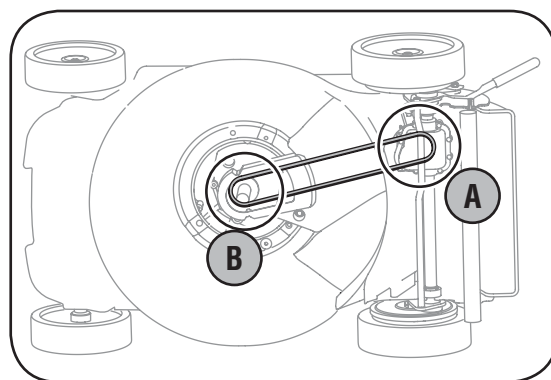

Figure 5-4
- a. Remove the self-tapping screws that secures the engine baffle to the deck. See Figure 5-4. Remove engine baffle.
- b. Loosen self-tapping screw that secures deck baffle to the deck. See Figure 5-4.